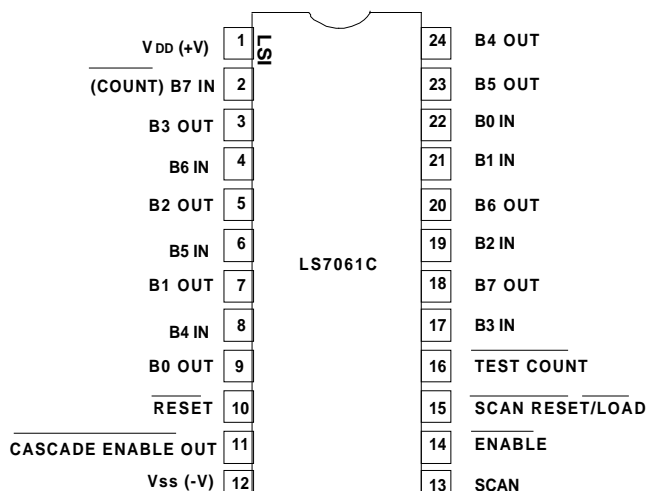

FIGURE 2
- LS7061C (DIP); LS7061C-S (SOIC) - See Figure 2